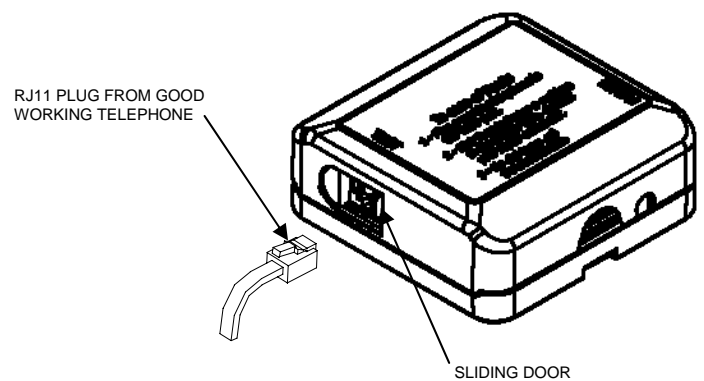

Figure 3
1. Slide open the cover from the Auto-Jack[®] test receptacle located on the side of unit. Using a working telephone, insert the telephone RJ-11 plug into the Auto-Jack (See Figure 3).